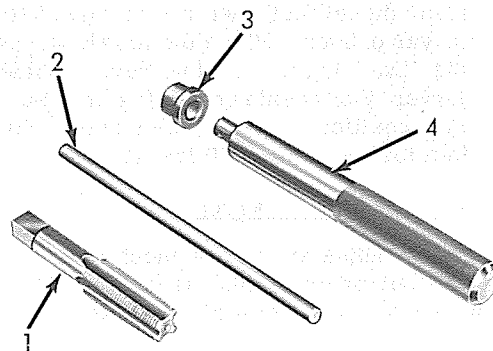
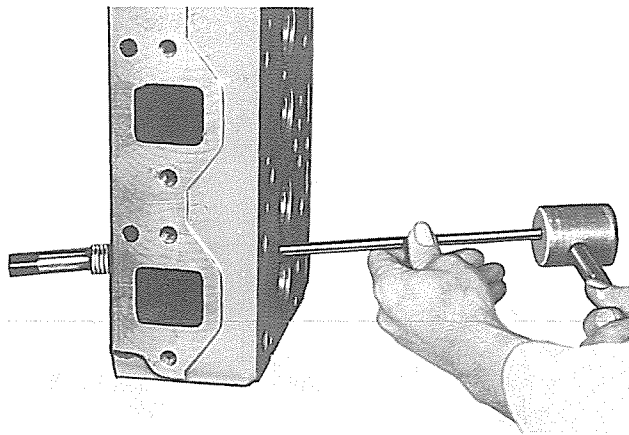

Fig. 16 — Fuel Injection Nozzle-Holder Sleeve Removing and Installing Tool Details (T-22342)
Fig. 17 — Removing Fuel Injection
1. Using tools similar to the ones shown in Fig. 16, screw the 7/8" tap down into fuel injection nozzle-holder sleeve as shown in Fig. 17.
2. Insert driving rod, Fig. 16 (2), through the nozzle tip hole in bottom of the cylinder head,